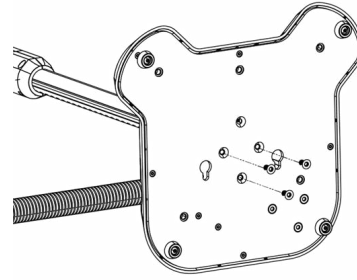

Figure 24. M5 Torx Screws
- e. Unscrew the three (3) M5 Torx screws shown in **Figure 24** to release the stand post from its vertical position. Gently move the post back and forth to release it.